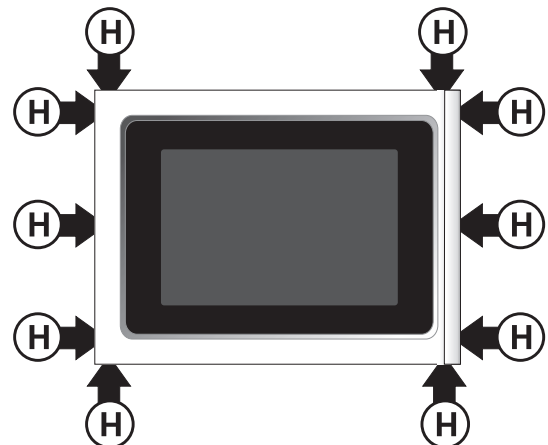

Figure 11
- 6.3.1. Remove the three (3) screws, each side, fixing the outer door assembly (glass panel and handle). Remove also the four (4) screws located on top (2) and under (2) outer door assembly (see H, Figure 11 (10 screws total)).
6.3.14. Fix the outer door assembly using the ten (10) screws removed on step 6.3.1 (See H, Figure 11).